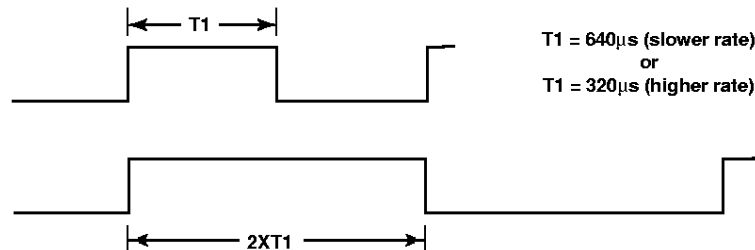

Figure 34. SXCVR Bit Definition
The definition for the zero (0) data bit and the one(1) data bit is shown in Figure 34. The bits are generated with a 50% duty cycle. The basic time unit is  $T1$ . A zero bit has  $T1$  time at logic High followed by  $T1$  time at logic Low. A one bit has  $2XT1$  time at logic High followed by  $2XT1$  time at logic Low. That is, a one bit has twice the duration of a zero bit.